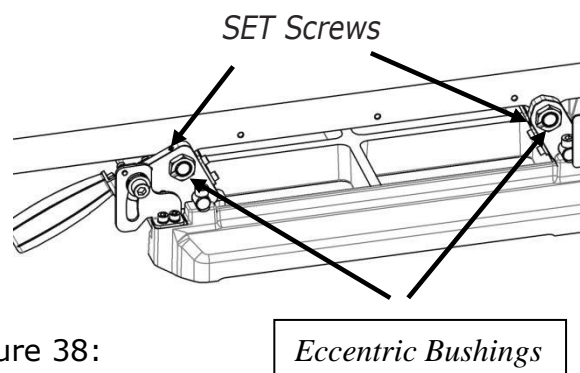
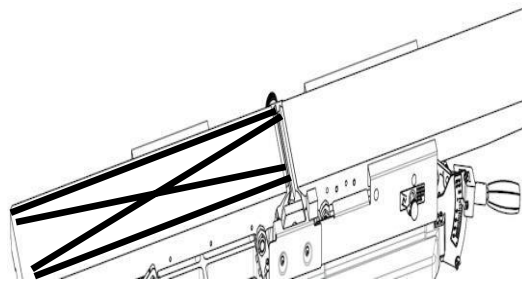

Figure 38:
Figure 39:
**STEP 6:** If the outfeed table is not parallel to the cutter head; loosen the set screws for the eccentric bushings **FIG. 38**. Rotate the eccentric bushing(s) to adjust the outfeed table parallel to the cutter head. Make sure eccentric bushings are seated and tighten set screws.
**STEP 5:** After verifying the parallelism on the outfeed table, make sure the eccentric bushing(s) are seated snugly and tighten set screw(s) into eccentric bushing(s) **FIG. 38**.
**STEP 3:** Loosen set screws as shown in FIG. 38.
**STEP 4:** Place straight edge to all the positions shown in **FIG. 39** and loosen set screw(s) adjust the eccentric bushings, as in **FIG. 38**, until straight edge slightly touches the cutterhead insert knife (at top-dead-center) at each position.
**STEP 5:** After verifying the parallelism on the outfeed table, make sure the eccentric collars are seated snugly, into its bracket, and tighten set screws into eccentric bushings (Fig. 38).